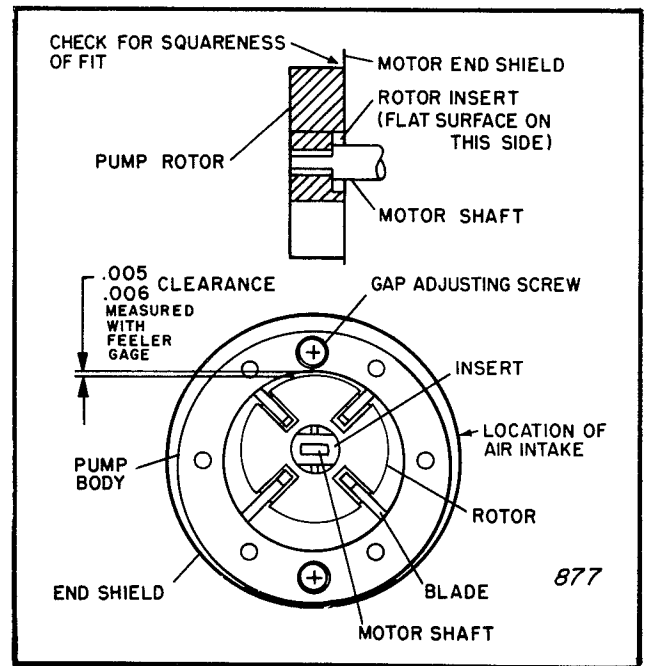

Figure 10. Air Pump Assembly and Rotor Clearance
a. Install the insert in the pump rotor as shown in Figure 10, then assemble the rotor on the motor shaft. Attach the pump body to the motor with the two screws which were removed.
b. Adjust the pump body to provide 0.005 - 0.006 inch clearance at the point shown in Figure 10. Measure the clearance with a feeler gage. Spin the motor by hand to be sure the rotor does not rub on the pump body. The proper clearance must be maintained. Be sure the screws are tight after adjusting the clearance.
d. Install the end cover, with the air line connection located as shown in Figure 10, using the four screws.